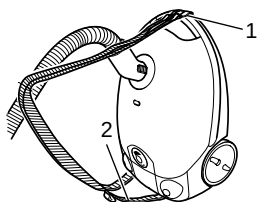

Fig. 14
1. Secure the hook for the shoulder strap on to the handle (Fig. 14/1). The shoulder straps (Fig. 14/2) must point to the top of the appliance.
3. Insert one shoulder strap clasp into the upper holder on the back of the appliance (Fig. 14/2).
1. Release the hook for the shoulder strap from the handle (Fig. 14/1).